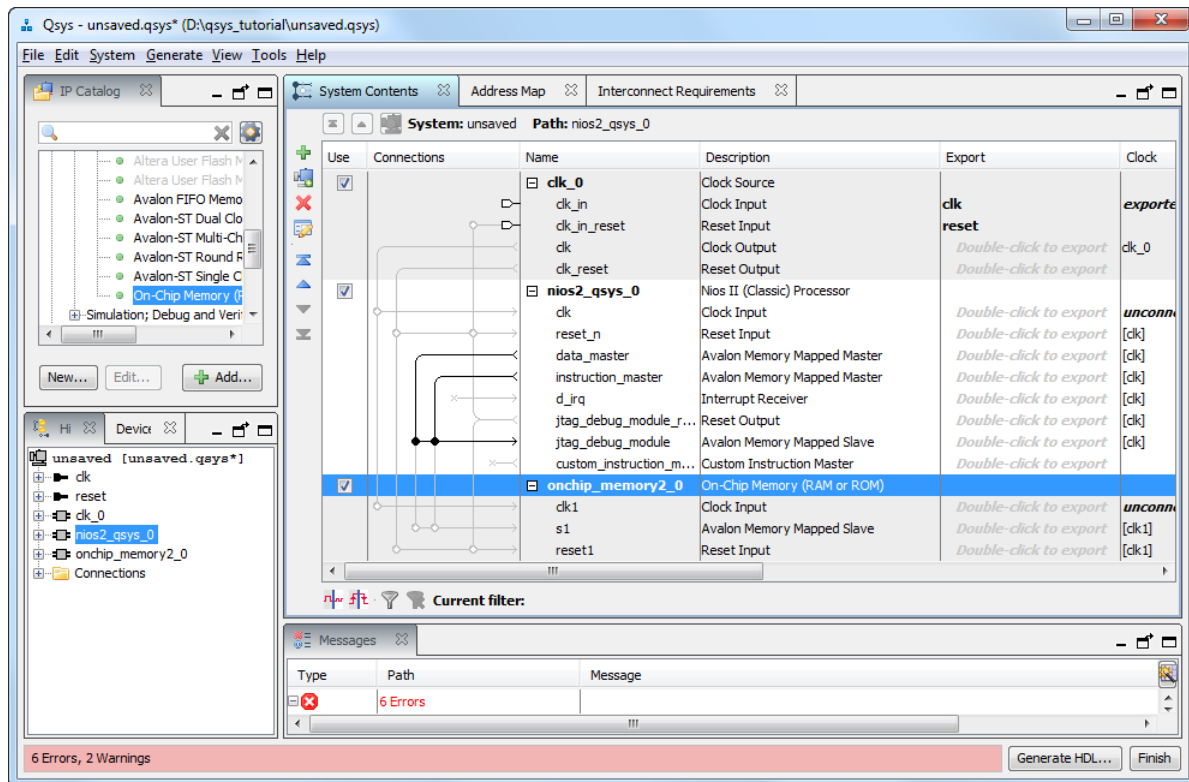

Figure 8. The on-chip memory included on a DE-series board.
- Click Finish, which returns to the System Contents tab as indicated in Figure 8
6. Observe that while the Nios II processor and the on-chip memory have been included in the design, no connections between these components have been established. To specify the desired connections, examine the Connections area in the window in Figure 8. The connections already made are indicated by filled circles and the other possible connections by empty circles, as indicated in Figure 9.